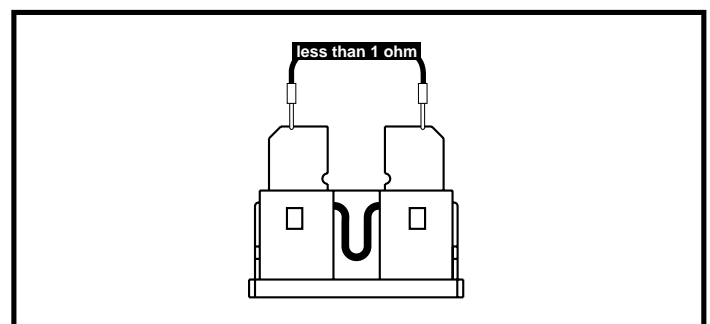

Figure 14. Fuse 10c
23. Measure resistance across the two fuse blades. See figure 14.